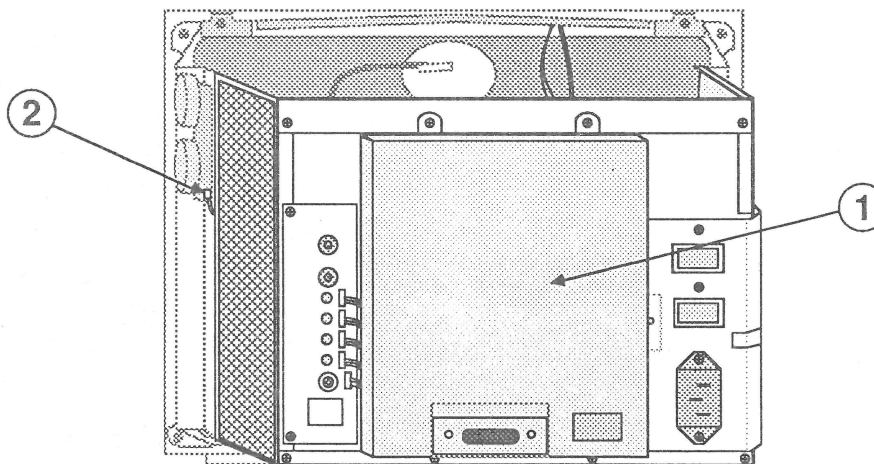

FIGURE 37
7. Pull off the metal video board shield (Figure 37, #1).
8. Disconnect J-8 (Figure 37, #2) from contrast control board "J."